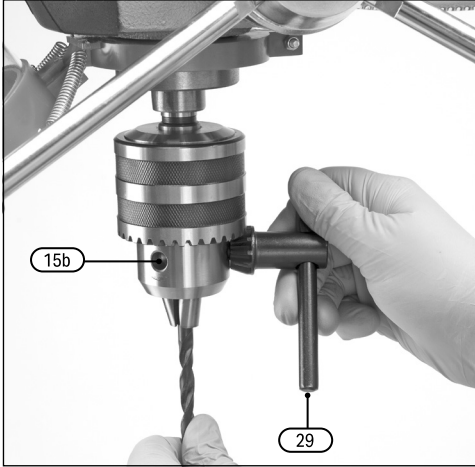

Fig. 14
7.2 Drill Bit Installation/Replacement (Fig.14)